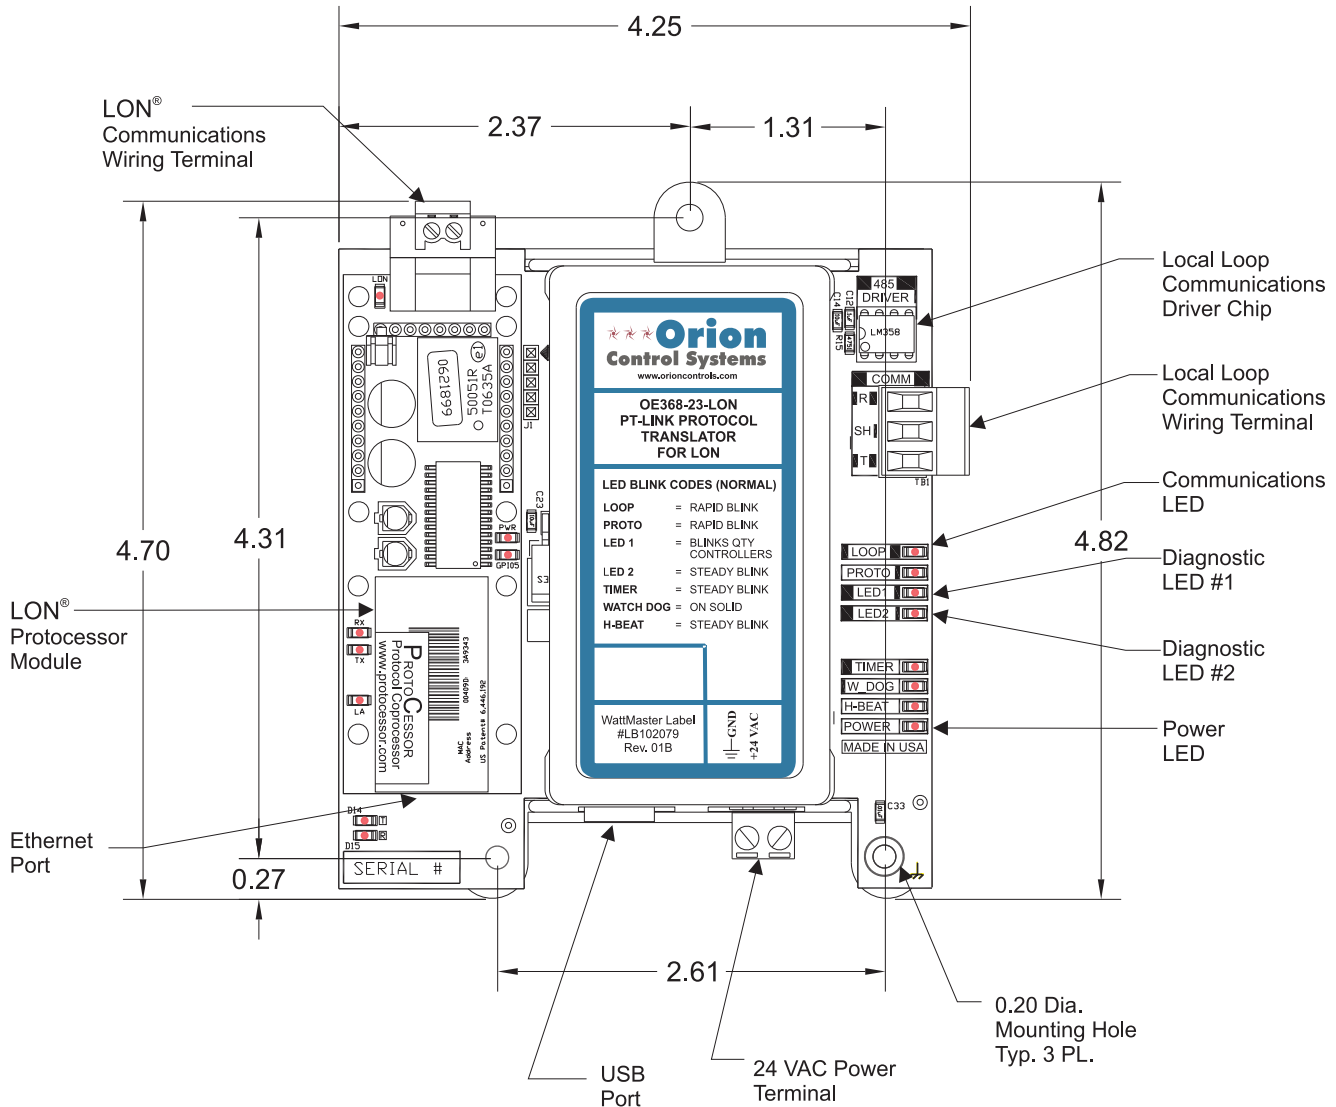

Figure 1: PT-Link II LON® Dimensions and Components
1. Familiarize yourself with the PT-Link II components (**Figure 1**).